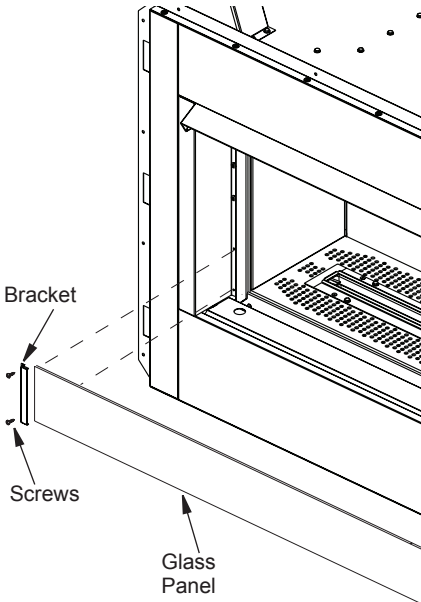

Figure 25 - Installing Glass Panel
The glass panel assembly should be installed after the fireplace is completely framed and finished. The brackets are attached to the front side face of the fireplace using two screws as shown in Figure 25. Position the glass panel in the bracket so that it is securely in place. The glass panel can be placed in two different height locations.
3. Remove glass panel if installed (Figure 25, page 15).